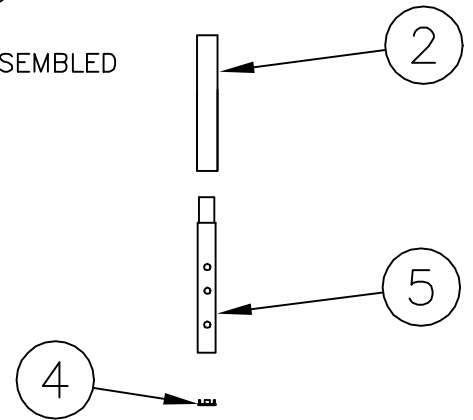

FIGURE 1
Lay the bed down on a soft surface. Insert leg extension (5) into bed end post (2) with holes facing up, (as shown) insert leg extension into bottom of post (2) until the reduction is no longer visible. Insert plastic glide (4) into bottom of leg extension. (To firmly insert glide, you may need to use a padded hammer). (Figure 1)